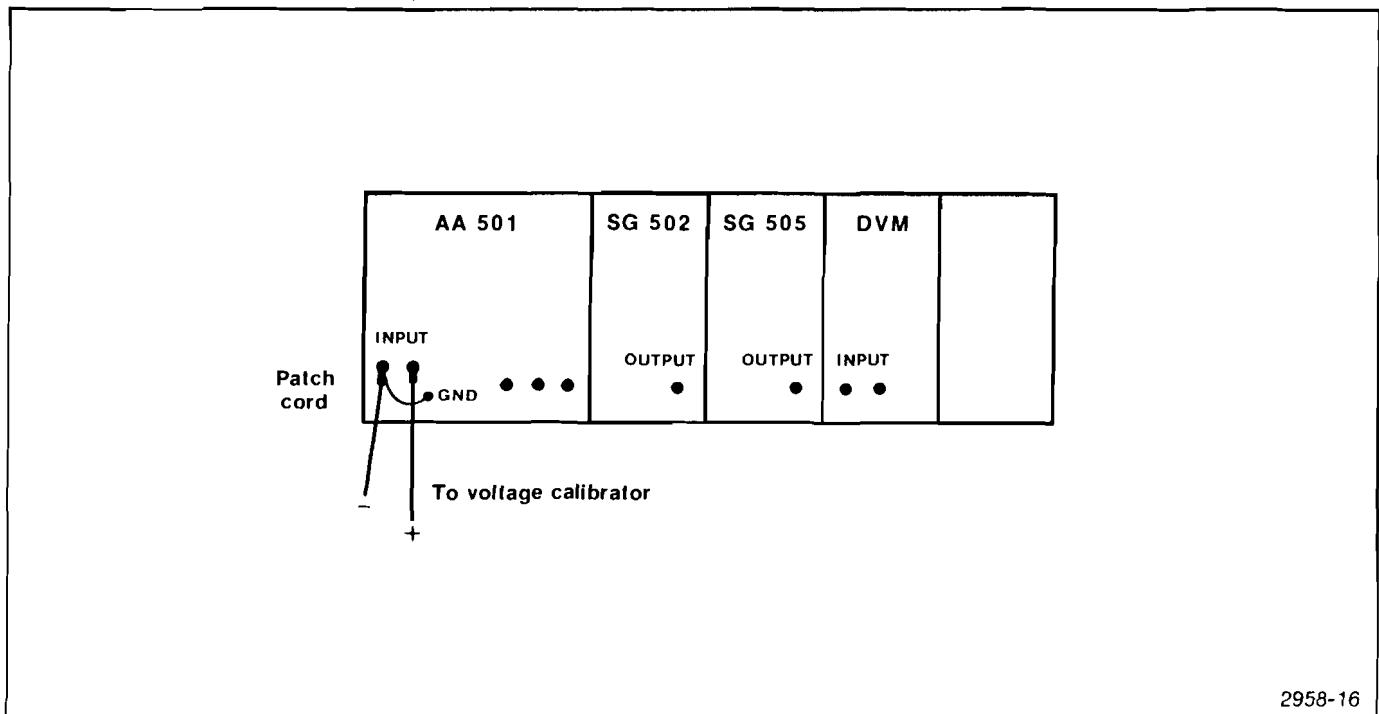

Fig. 4-3. Check step 3. Level function accuracy.
- a. Connect the test equipment as shown in Fig. 4-3.